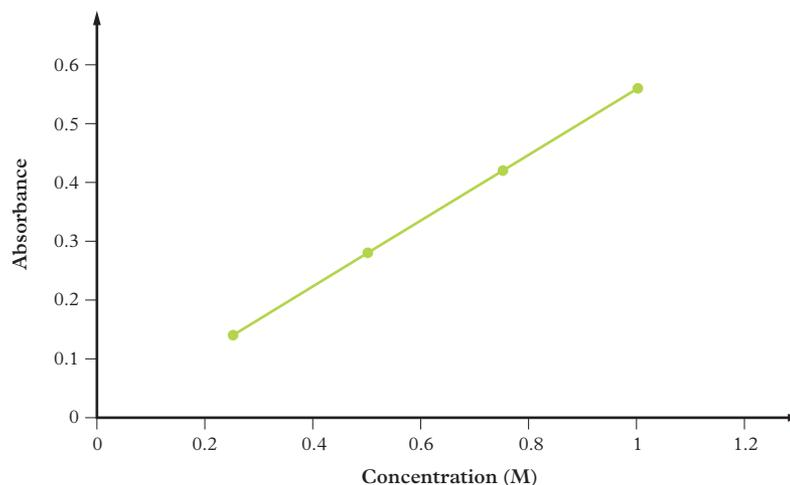

FIGURE 11 A calibration curve of known concentrations of copper sulfate and absorbance from colorimetry
- **Step 2:** Plot the concentration (x -axis) versus absorbance (y -axis) to create a calibration curve using a line of best fit (see Figure 11).